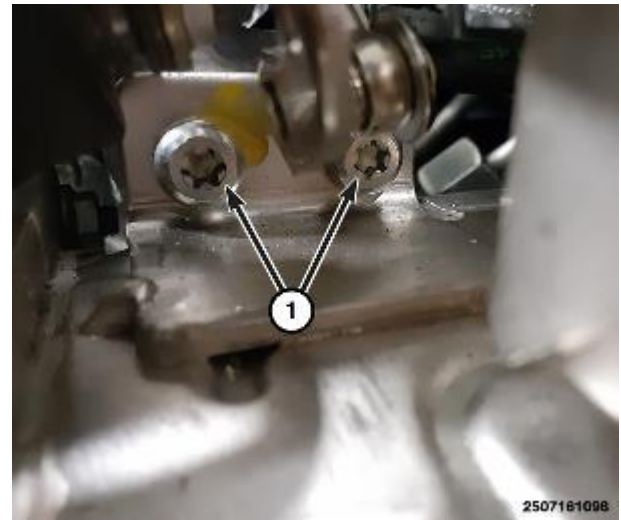

Figure 131 – Vacuum Actuator Screws
69. Remove the vacuum actuator with heat shield screws (1) and position aside the vacuum actuator (Figure 131).
92. Install the vacuum actuator with heat shield screws (1) (Figure 131).